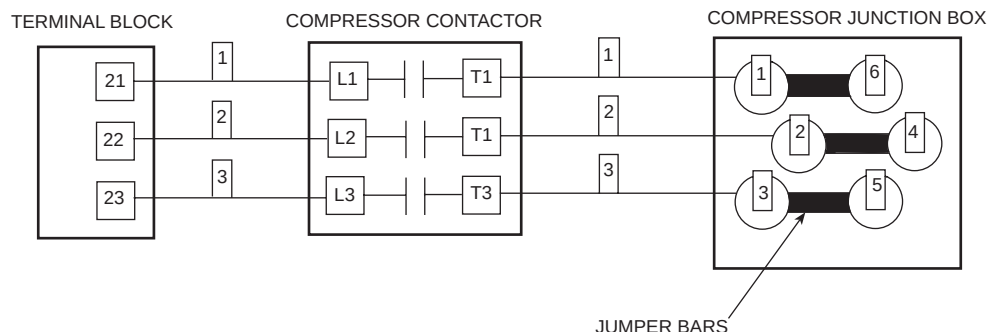

Fig. 2 — Across-the-Line (XL) Compressor Wiring
Wye-Delta vs Across-the-Line (XL) Starting Option — All 30GX,HX chillers operating at voltages of 208/230-3-60 or 230-3-50 (5 or 8 at Position 12 in model number) are supplied with factory installed Wye-Delta starters. All other voltage options can be ordered with either Wye-Delta or XL starting options. The XL starting method is the most cost effective and simply starts the compressor motor in a Delta configuration (the motors are designed for continuous operation in this configuration) using a single contactor. See Fig. 2. This is the simplest starting method to use and is ideal where starting current does not require limiting.